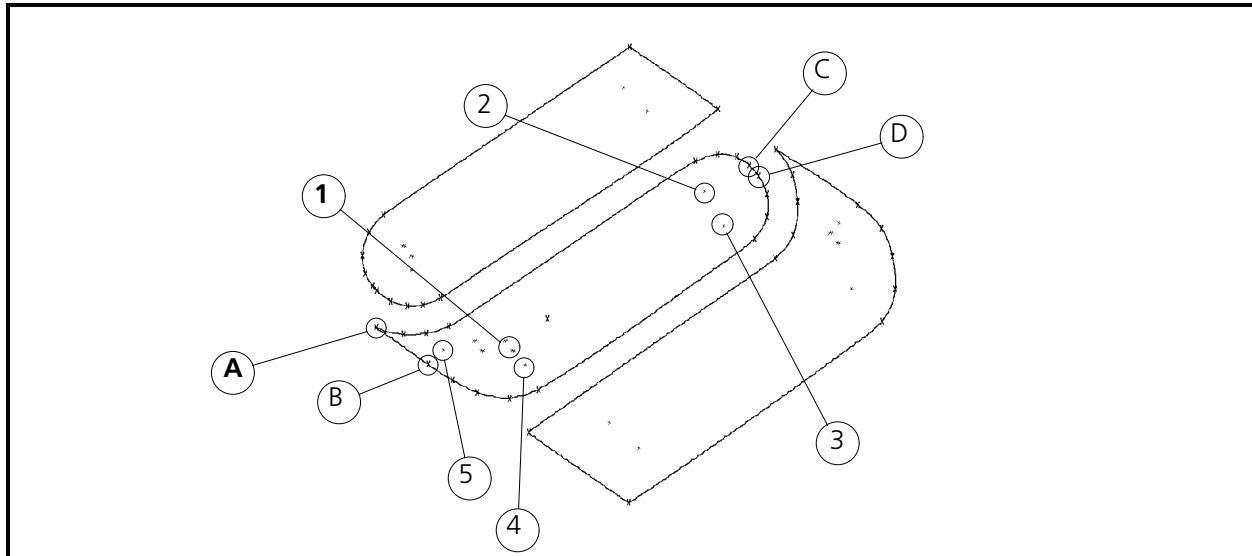

Figure 3-61
1. Near point D in the first fill, generate a lock stitch pattern, then perform the "needle up" / "normal stitch" functions to go to point 1 in the middle section of the logo as shown in Figure 3-61.